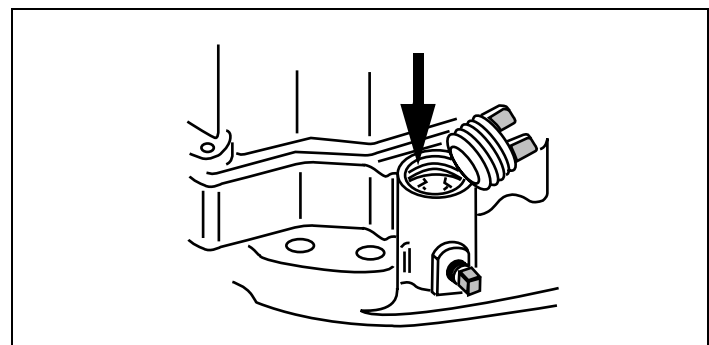

Figure 9. Engine With Oil Fill Cap/Plug
2. Clean area around oil fill cap/plug. See Figure 9.